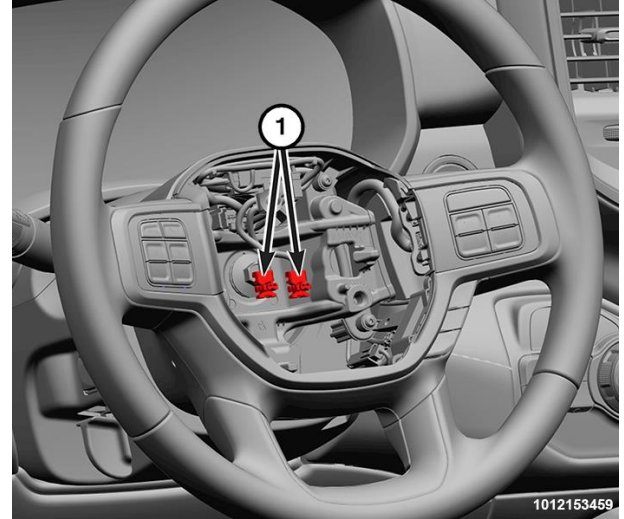

Figure 20 – Steering Wheel Wire Harness Connectors
11. Pull the DAB away from the steering wheel far enough to access the steering wheel wire harness connector to the DAB inflator initiators (1) (Figure 20).
12. The clockspring DAB pigtail wire connector insulators are secured by integral latches and a Connector Position Assurance (CPA) lock to the airbag tether cutter and inflator connector receptacles, which are located on the back of the floating horn switch plate and the DAB housing. Pull the lock straight away from the connector insulator, then pull the insulators straight away from the connector receptacles to disengage and disconnect them (Figure 20).
13. Connect the two steering wheel wire harness connectors (Figure 20).
14. Position the DAB close enough to the steering wheel to connect the steering wheel wire harness connectors to the DAB inflator initiators (1) (Figures 20 and 21).